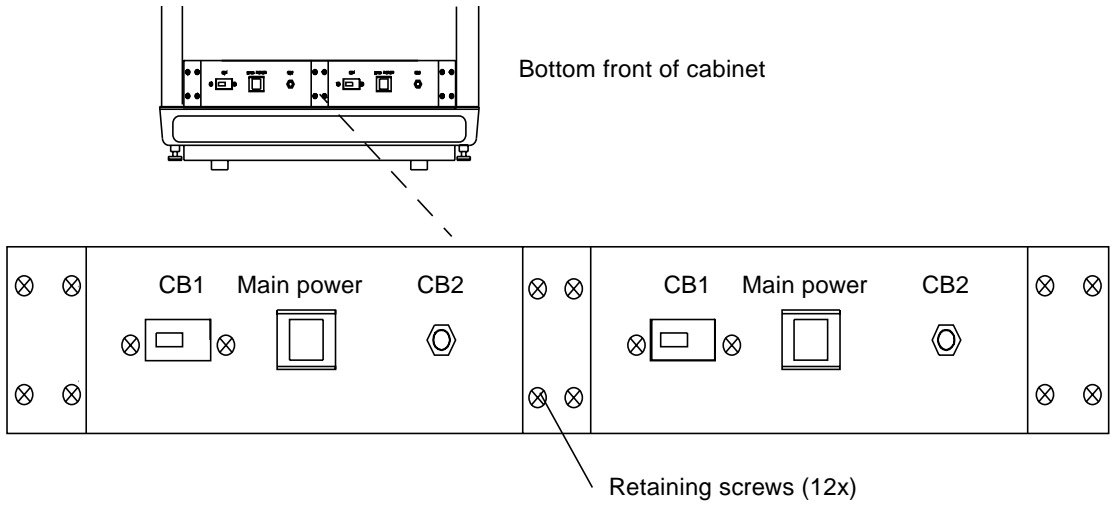

FIGURE 6-27 AC Box
6. **Open the front cabinet door. Remove the screws holding the AC box. See FIGURE 6-27.**
- 3. Replace the screws securing the AC box. See FIGURE 6-27.**